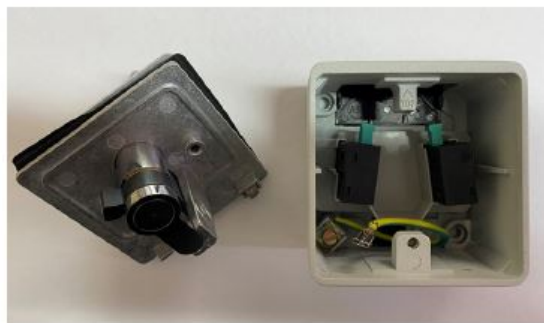

fig.1
1. To open the key switch remove screw from front then rotate key a quarter turn and pull the front away to reveal the wiring underneath (fig.1).